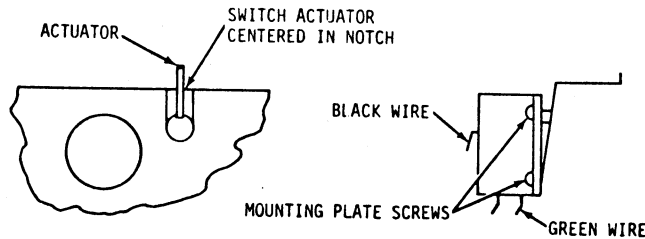

Figure 6-7. Hopper Empty Switch Adjustment
- b. Check that operating arm of switch is parallel to top of picker casting, and that arm is not bent, figure 6-7.